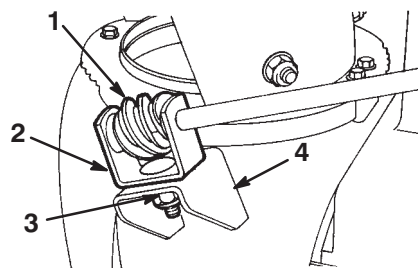

Figure 13
2. Apply No. 2 general purpose grease to the worm gear (Fig. 13).
3. Loosely mount the worm gear and the bracket to the mounting flange with a bolt, a pyramidal washer, and a locknut as shown in Figure 13.
4. Slide the worm gear into the teeth of the chute retaining ring and tighten the locknut (Fig. 13).